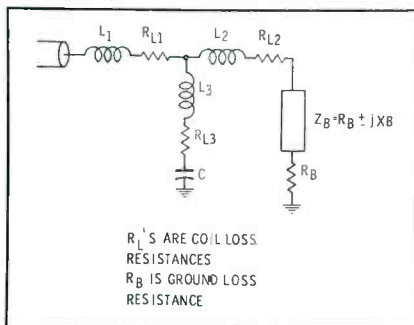

Fig. 1. Equivalent circuit of a tower and its tuning unit shows loss resistances.
A principal source of instability is changes in the loss resistance of the ground system (Fig. 1). For design calculations, the loss is often assumed to be two ohms per tower, but the actual value may average from less than one ohm to several ohms, depending on the type of soil and the size and condition of the ground system. Losses can be reduced by: (1) use of a large ground system (at least 120 radials of .4 wavelength average per tower), (2) a large sheet of copper mesh laid at each tower base with little or no soil over it (to reduce dielectric losses) and all radials soldered to it, (3) wire fences and other conductors kept well clear of the towers, and (4) a site that is free from vegetation.